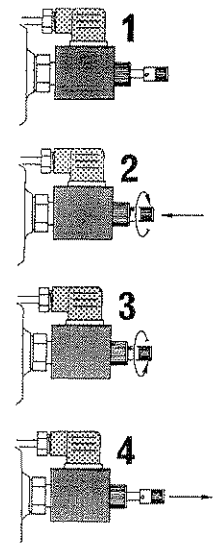

fig. 8b
- (!) On the distributor it has been installed an electro-valve with a manual locking function (fig. 8-8a) which allows to reactivate all the crane functions in case of absence of the electric power. Only in these conditions it is permitted to remove the lead seals which protects the device. Push the button and turn it into the clockwise sense (fig. 8b pos. 1-2); the button stays in stable and closed position.
- (!) When the electric power is reestablished, remember to put the button in its original position, turning it into the anti-clockwise sense. (fig. 8b pos. 3-4)